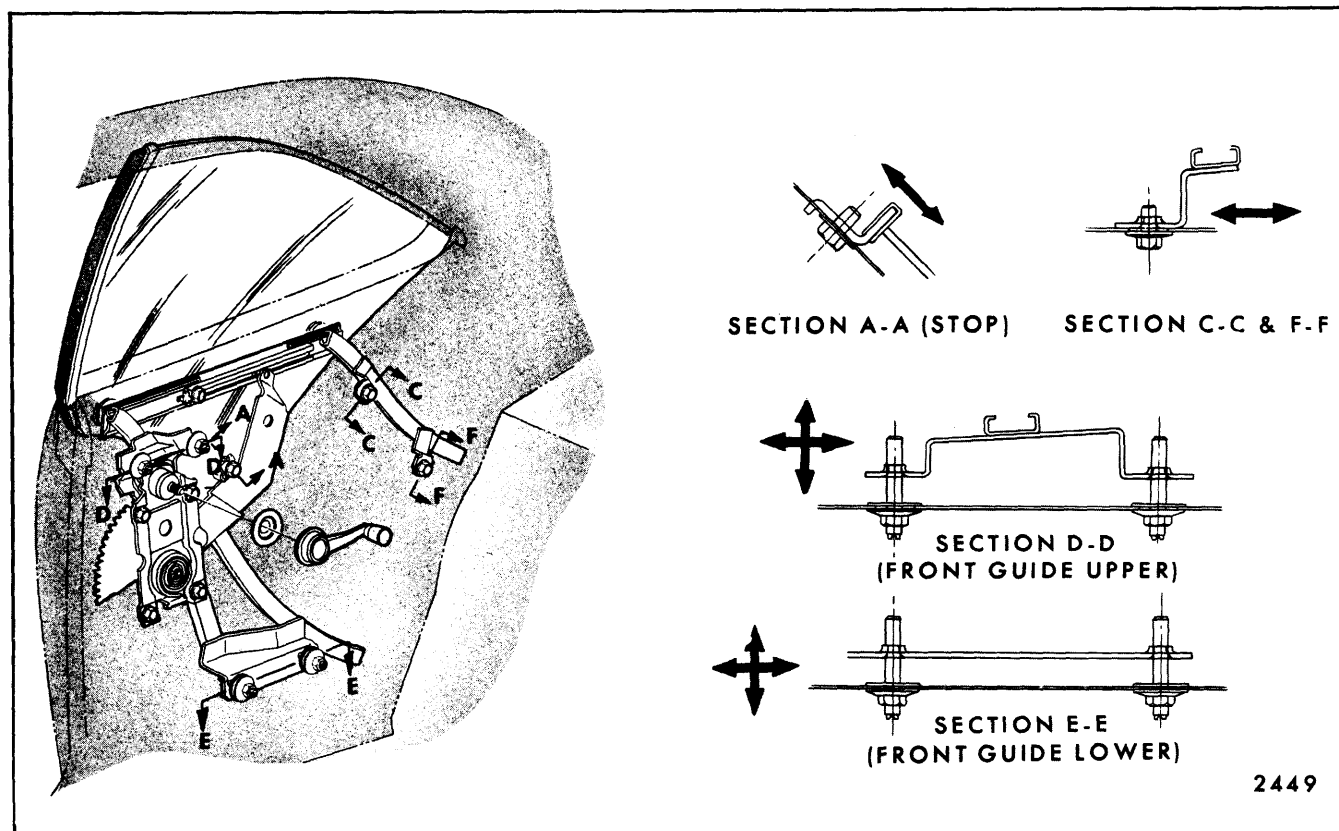

Fig. 7-39—Rear Quarter Window Adjustments - "Z-37" (Arrows Indicate Adjustment Direction Available)
1. The quarter window up-stop can be utilized for adjustments of glass to side roof rail weatherstrip (see Section "A-A" in Fig. 7-39).
2. The rear guide can be adjusted to gain proper fore and aft contact of rear quarter window vertical weatherstrip to rear edge of front door window (see section "C-C" and "F-F" in Fig. 7-39).